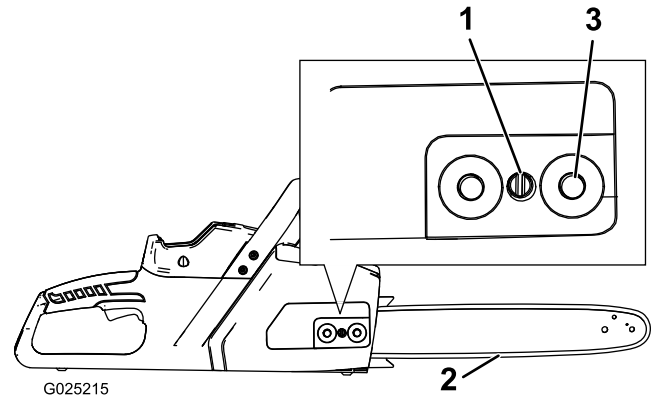

Figure 29
Note: The chain should move smoothly around the blade bar when pulled by hand, and should remain in contact with the underside of the bar (Figure 29).
- 2. Loosen the 2 nuts on the cover without removing the cover (Figure 29).
- 5. Tighten the 2 nuts (Figure 29).